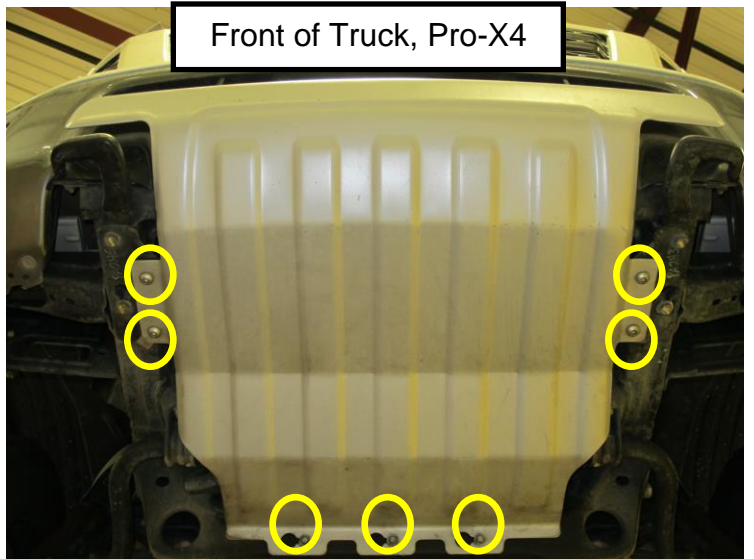

Figure 4
- Pro-4X: loosen the (3) bolts and remove the (4) hex head bolts (Figure 4).